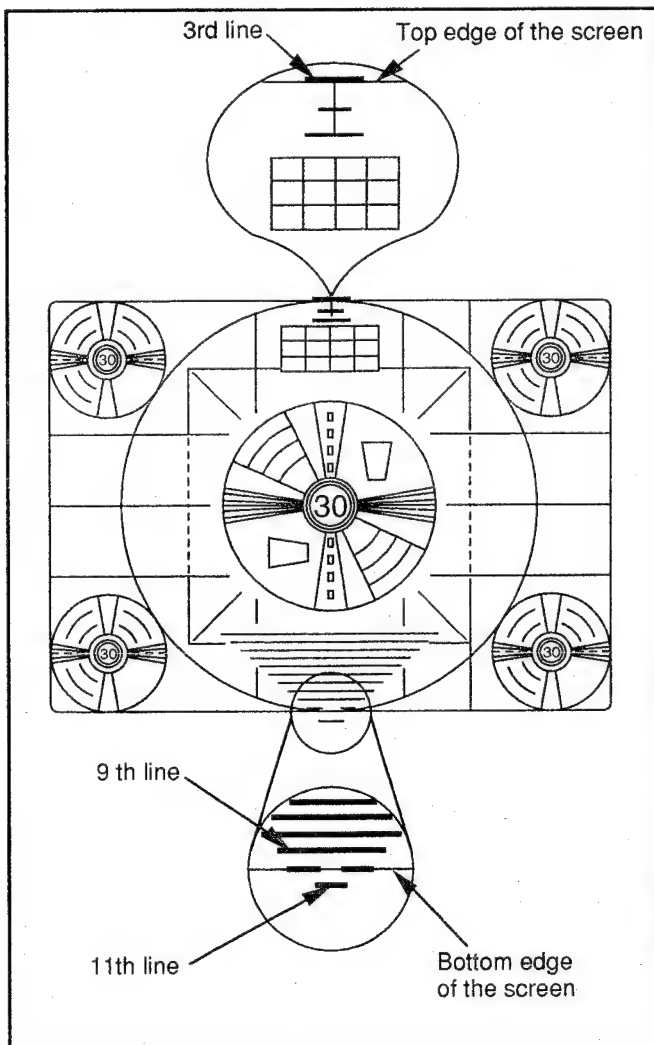

Fig. E17-1
1. Adjust R410 (V-HEIGHT) so that the top 3rd line just disappears from the edge of the screen as shown in Fig. E17-1.